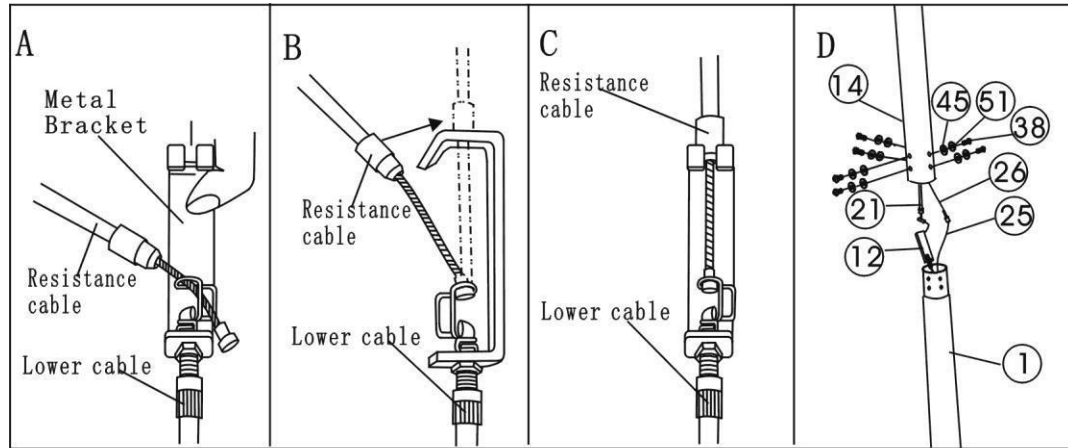

Figure 3
- a. On the lower position of the front upright frame (14), there is the tension control (21). Connect the joint of the tension control (21) with the tension control wire (12) firmly. < Note: at first, please turn the tension control's knob to the bottom of the “-” direction (in this situation, the joint of the tension control will be extended to the longest)>. Then put the end of resistance cable into the spring hook of Tension control wire (12) as shown on drawing **A** of figure 3.
Pull the resistance cable up and force it into the gap of metal bracket of Tension control wire (12) as shown on drawing **B** of figure3
Connect the resistance cable with the Tension control wire (12) completed as shown on drawing **C** of figure 3. If the upper side of the tension control wire cannot fix perfectly in the gap of metal bracket, please adjust the nut which below the bracket to the suitable position.
- b. Connect the computer wire (26) to the Sensor wire (25) coming out from mainframe (1) as show on drawing **D** of figure3.
- c. Insert the Front upright frame (14) to the main frame (1) and secure it with six pieces of M8 x 20 Bolts (38), Φ 8 Spring washers (51), and Φ 8 Arc washers (45) as shown on drawing **D** of figure 3.